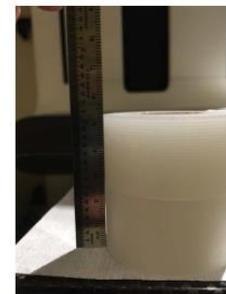

Figure 5. Measuring the width of the compression thickness indicator phantom.
- In contact mode, place the phantom on the breast support so that it is centered laterally and aligned flush with the chest wall edge of the support (Figure 5).
- Measure the thickness of the phantom using the same units provided on the indicator (cm or mm) and record this value on the form (Figure 5).